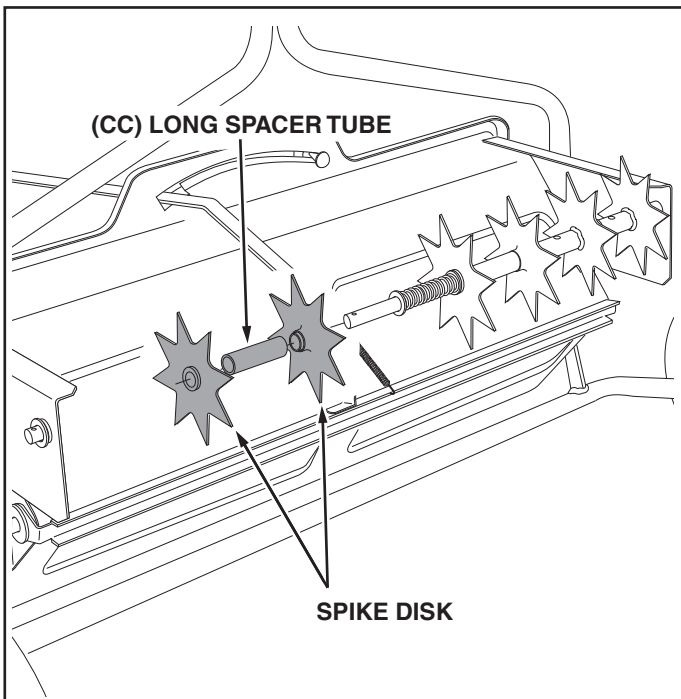

FIGURE 17
36. Place two spike disks, separated by a long spacer tube, onto the shaft. Fit the long spacer tube onto the ends of the flanged bearings in the disks. See figure 17.